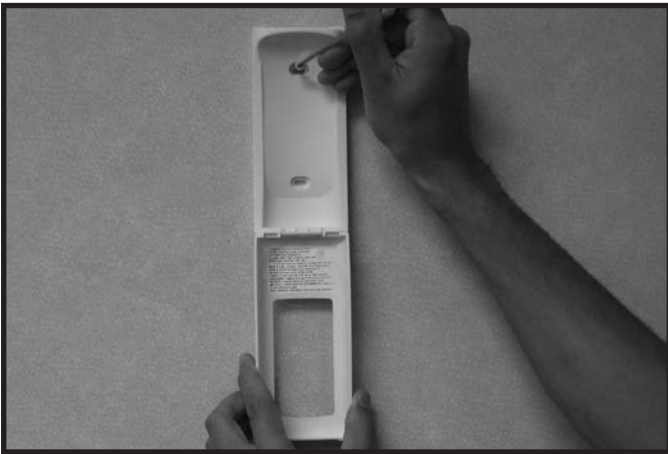

Figure 3.9 Mounting Remote Control Housing
3. Secure the remote control housing on a flat wall surface using the two screws and wall anchors provided. See Figure 3.9.